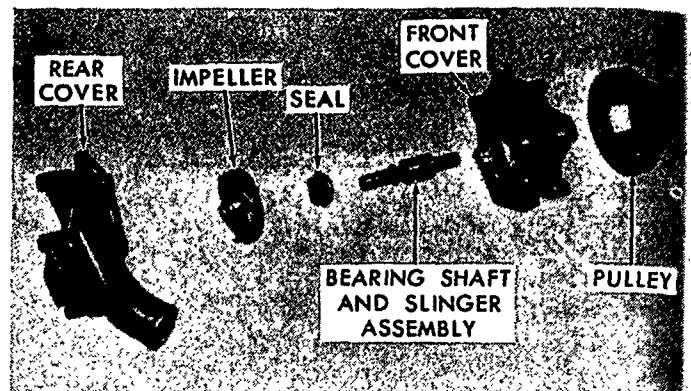

Figure 84
1. Figure 84 is an exploded view of the water pump. Use it for reference during reassembly. With a piece of pipe or